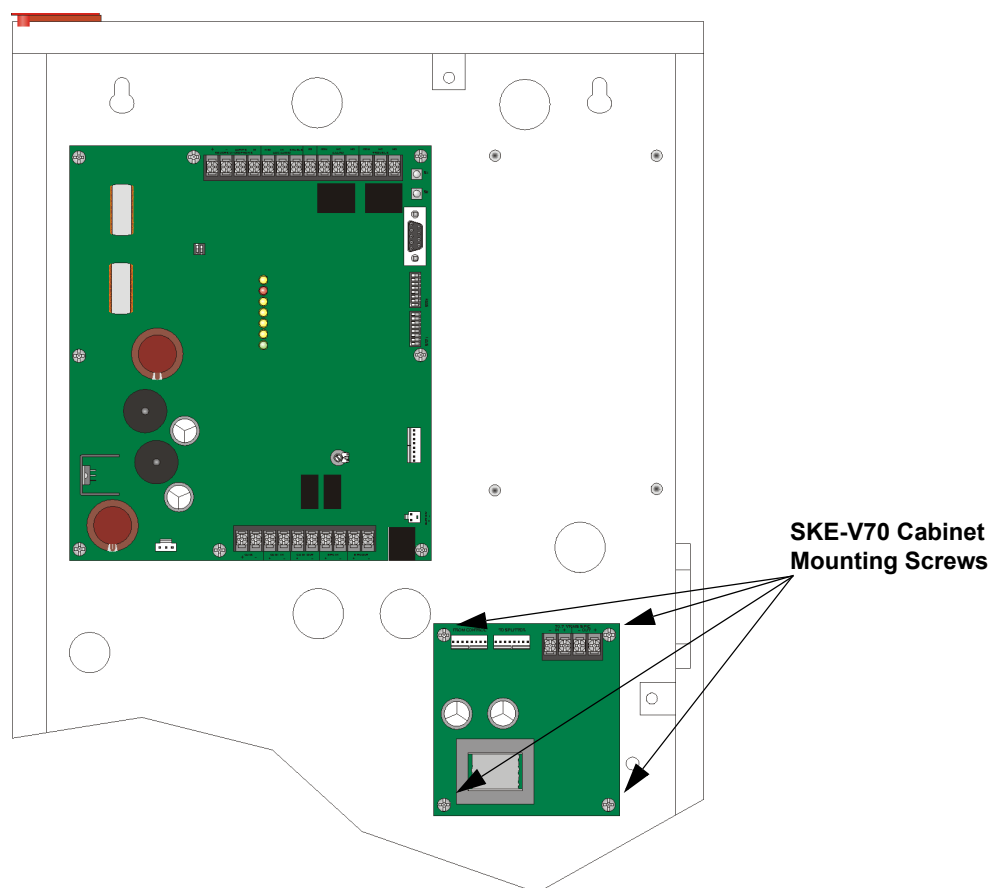

**Figure 8-1 View of Cabinet With Cover Plate in Place**
2. Remove the two cover plate retaining screws, then open the control panel cover plate. See Figure 8-1.